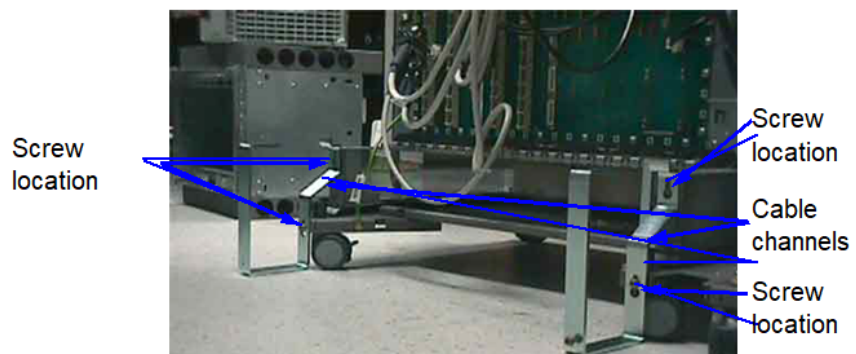

**Figure 18: OpenScape 4000 stacked cabinets (front view)**
**NOTICE:** The rear air baffles have to be installed as shown in Figure 19 for using the DCDR. Install the DCDR at the position where the front four air baffles are positioned. See also Figure 18.